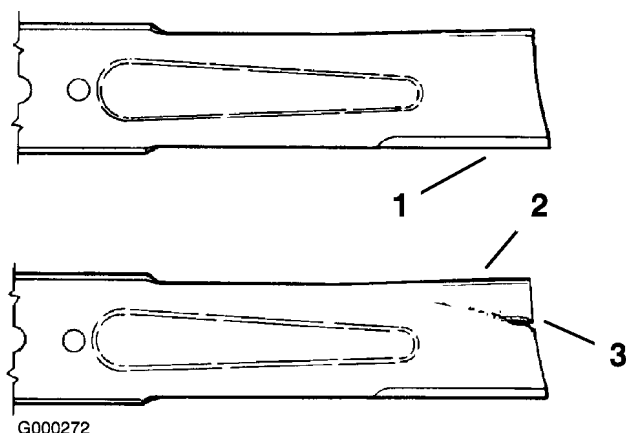

Figure 80
1. Inspect the cutting edges (Figure 80). If the edges are not sharp or have nicks, remove and sharpen the blades. Refer to Sharpening the Blades.
2. Inspect the blades, especially the curved area (Figure 80). If you notice any damage, wear, or a slot forming in this area (Figure 80), immediately install a new blade.